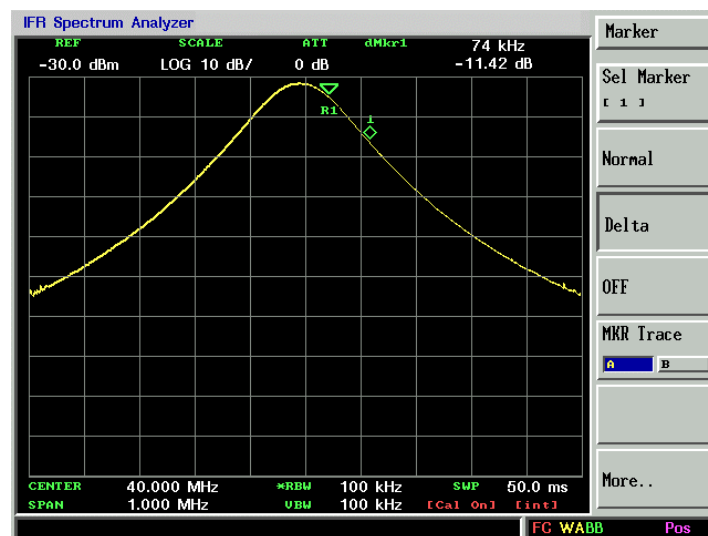

Figure 2-26. Determining the Offset
8. Determine the offset from the signal peak to the desired point on the filter skirt by moving the delta marker to the midpoint. Press 75 kHz to move the delta marker to the midpoint. See Figure 2-26.